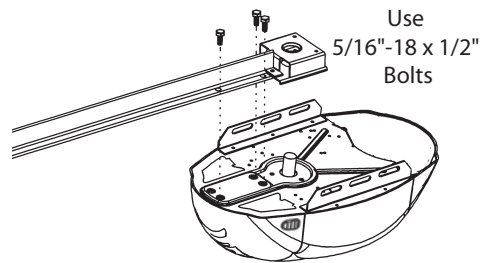

FIG. 1-2 Rail - Power head assembly.
1. Attach rail assembly to power head by aligning the sprocket onto the motor shaft. Use (3) bolts, 5/16"-18 x 1/2" (Fig. 1-2).